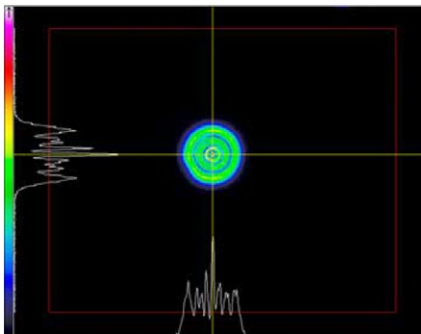

Figure 11. Setting symmetric diffraction pattern.
h. By using **Tilting only ($\theta_x; \theta_y$)** get symmetric diffraction pattern that is centered with the crosshair (fig. 11).